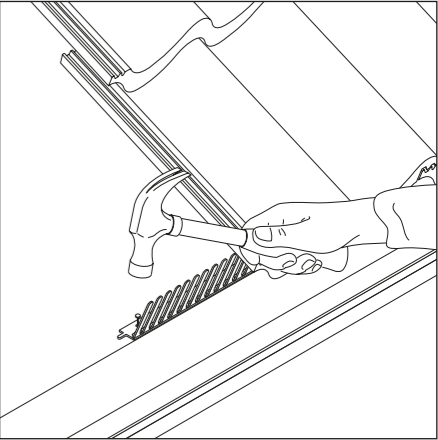

Fig 8
- 9 Nail comb eaves filler strip to top of fascia board using 45mm x 3.35mm (10mm OFV) or 60mm x 3.35mm (25mm OFV) aluminium nails at every nail hole position (Fig 8).